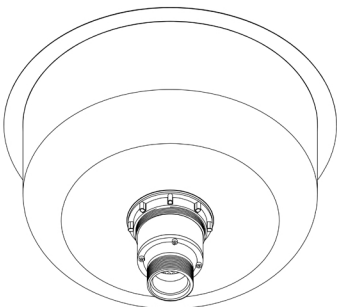

FIG3
d) Ensure rubber seal is in place between locking nut and the bottom of the sink. Tighten locking nut until a water tight seal is achieved as shown in Fig3.